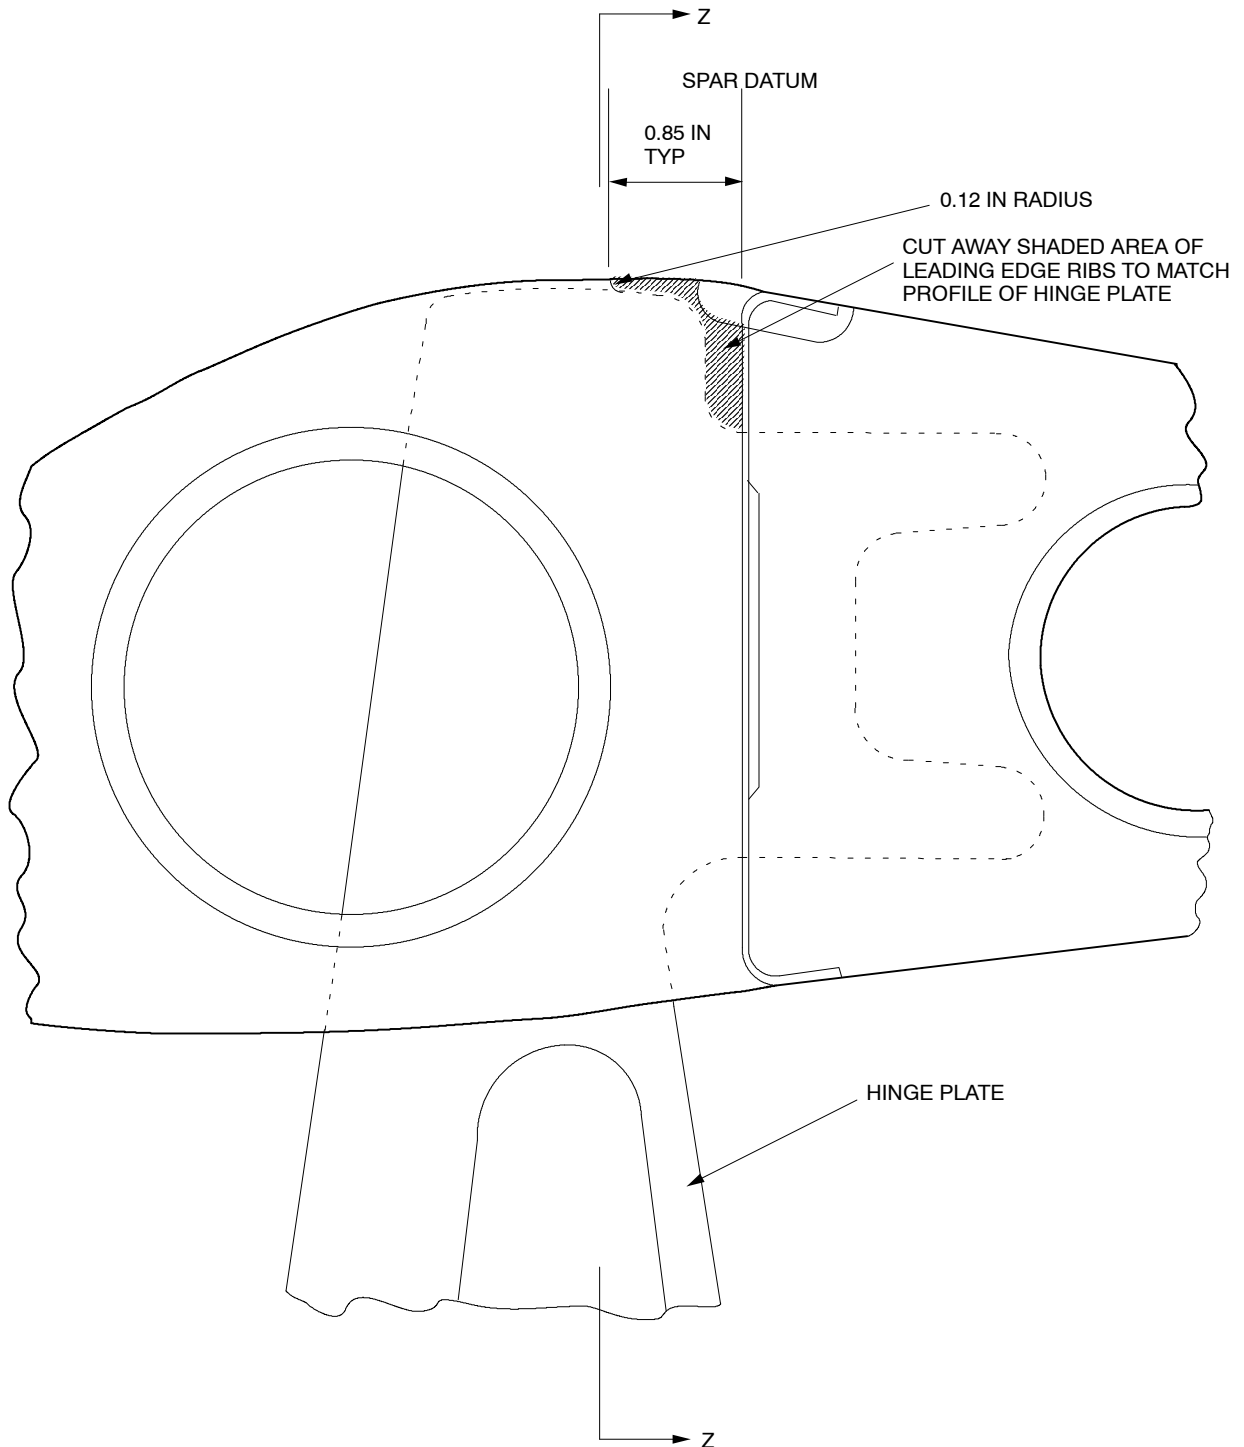

Figure 3 Aileron Leading Edge Rib Rework
- (7) Cut away shaded area of leading edge ribs PN 1A/N-24-107 and 1B/N-24-107 to match profile of hinge plate PN 1/N-24-108 (Ref Figures 3, 4,5and 6).
- (8) Touch up bare metal surfaces using Alodine 1200 and then zinc chromate primer.
- (9) Position reinforcing angle PN 1A/N-03-793 symmetrically about hinge plate to match the aileron contour at WSTA 172.75 and WSTA 259.60 and existing rivet holes in spar.
- (10) Maintaining edge distance of 0.20 to 0.30 in, backdrill the reinforcing angle. Remove the angle and deburr all newly drilled holes. Vacuum all metal particles from inside the aileron.